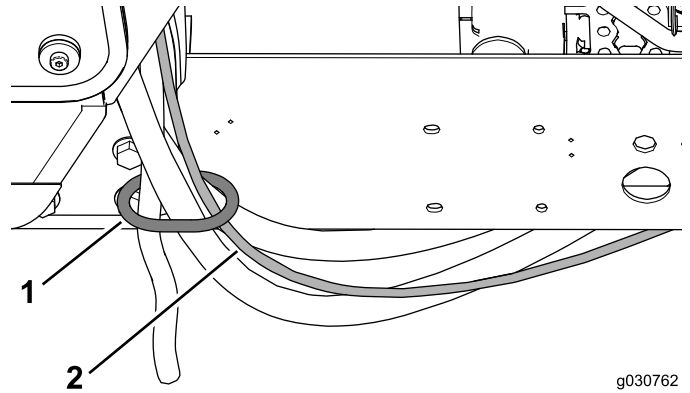

Figure 39
1. Route the washer hose through the hose ring on the rear cab mount (Figure 39).